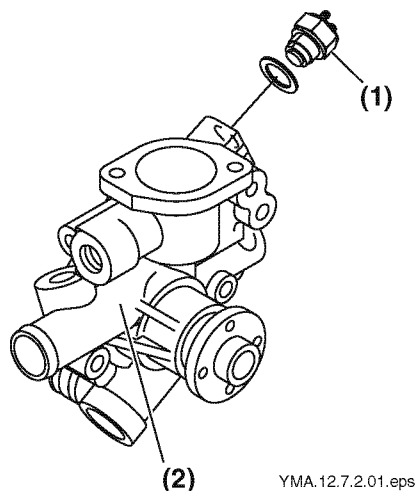

Figure 11-14
The indicator and buzzer are wired to a coolant temperature switch (**Figure 11-14, (1)**) that is installed in the coolant pump (**Figure 11-14, (2)**).